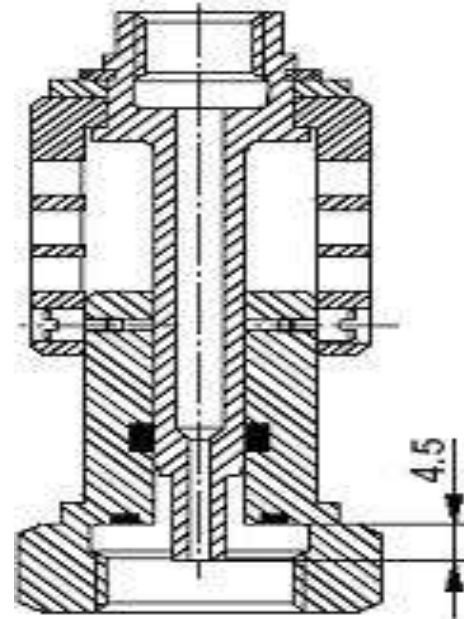

Fig. 3.14 Universal Test Connection
The universal test connection (part no. 187308) is set as per Fig. 3.14 and connected to a pressure gauge required for the test. Having removed the screw cap (1). Screw the test connection onto the test fitting for the pressure measurement. The tappet (3.1) is forced downwards, allowing compressed air to flow from air supply port P through the open valve seat V to the test port. The applied pressure can thus be measured with a pressure gauge via the universal test connection.